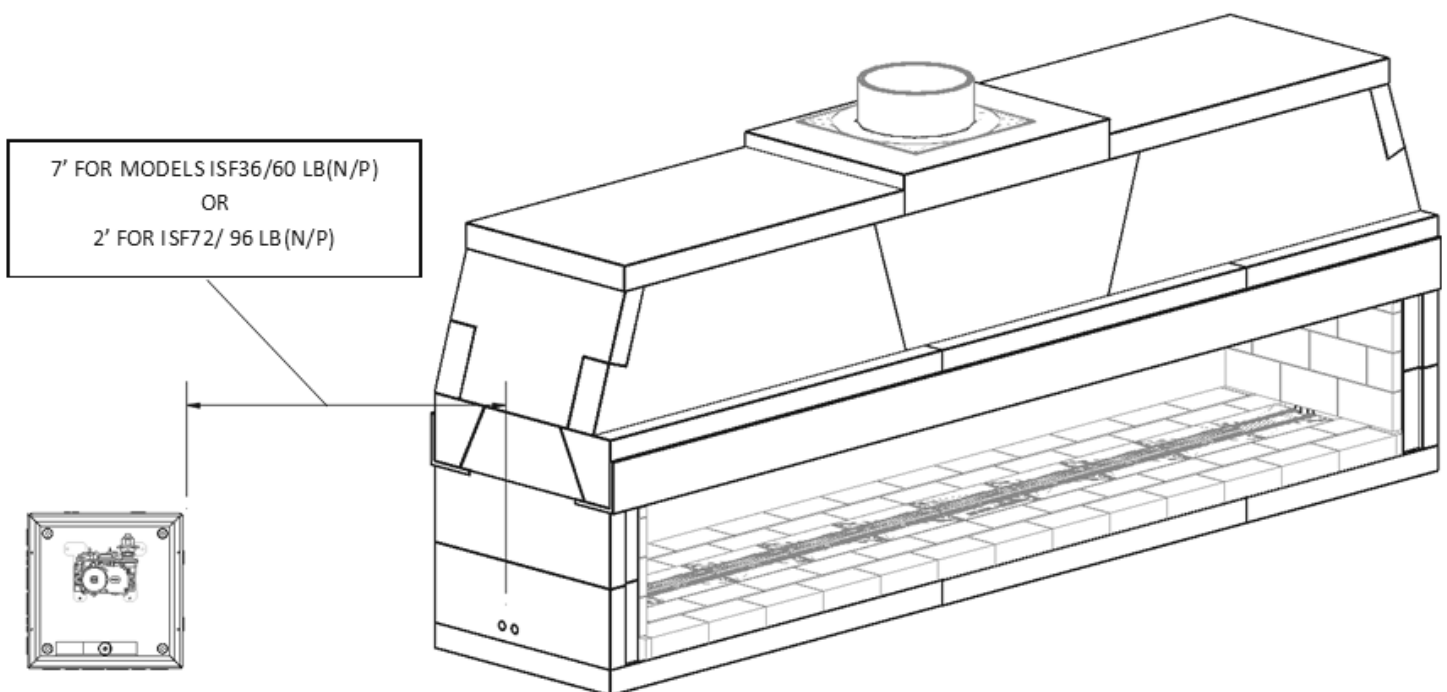

FIGURE 39
- 1) The valve control box comes with an 110" pilot assembly lead; therefore, the box must be mounted within 7' of the fireplace for burner models ISF36/60LB (N/P) and within 2' for models ISF72/96LB (N/P). **(Figure 39)**